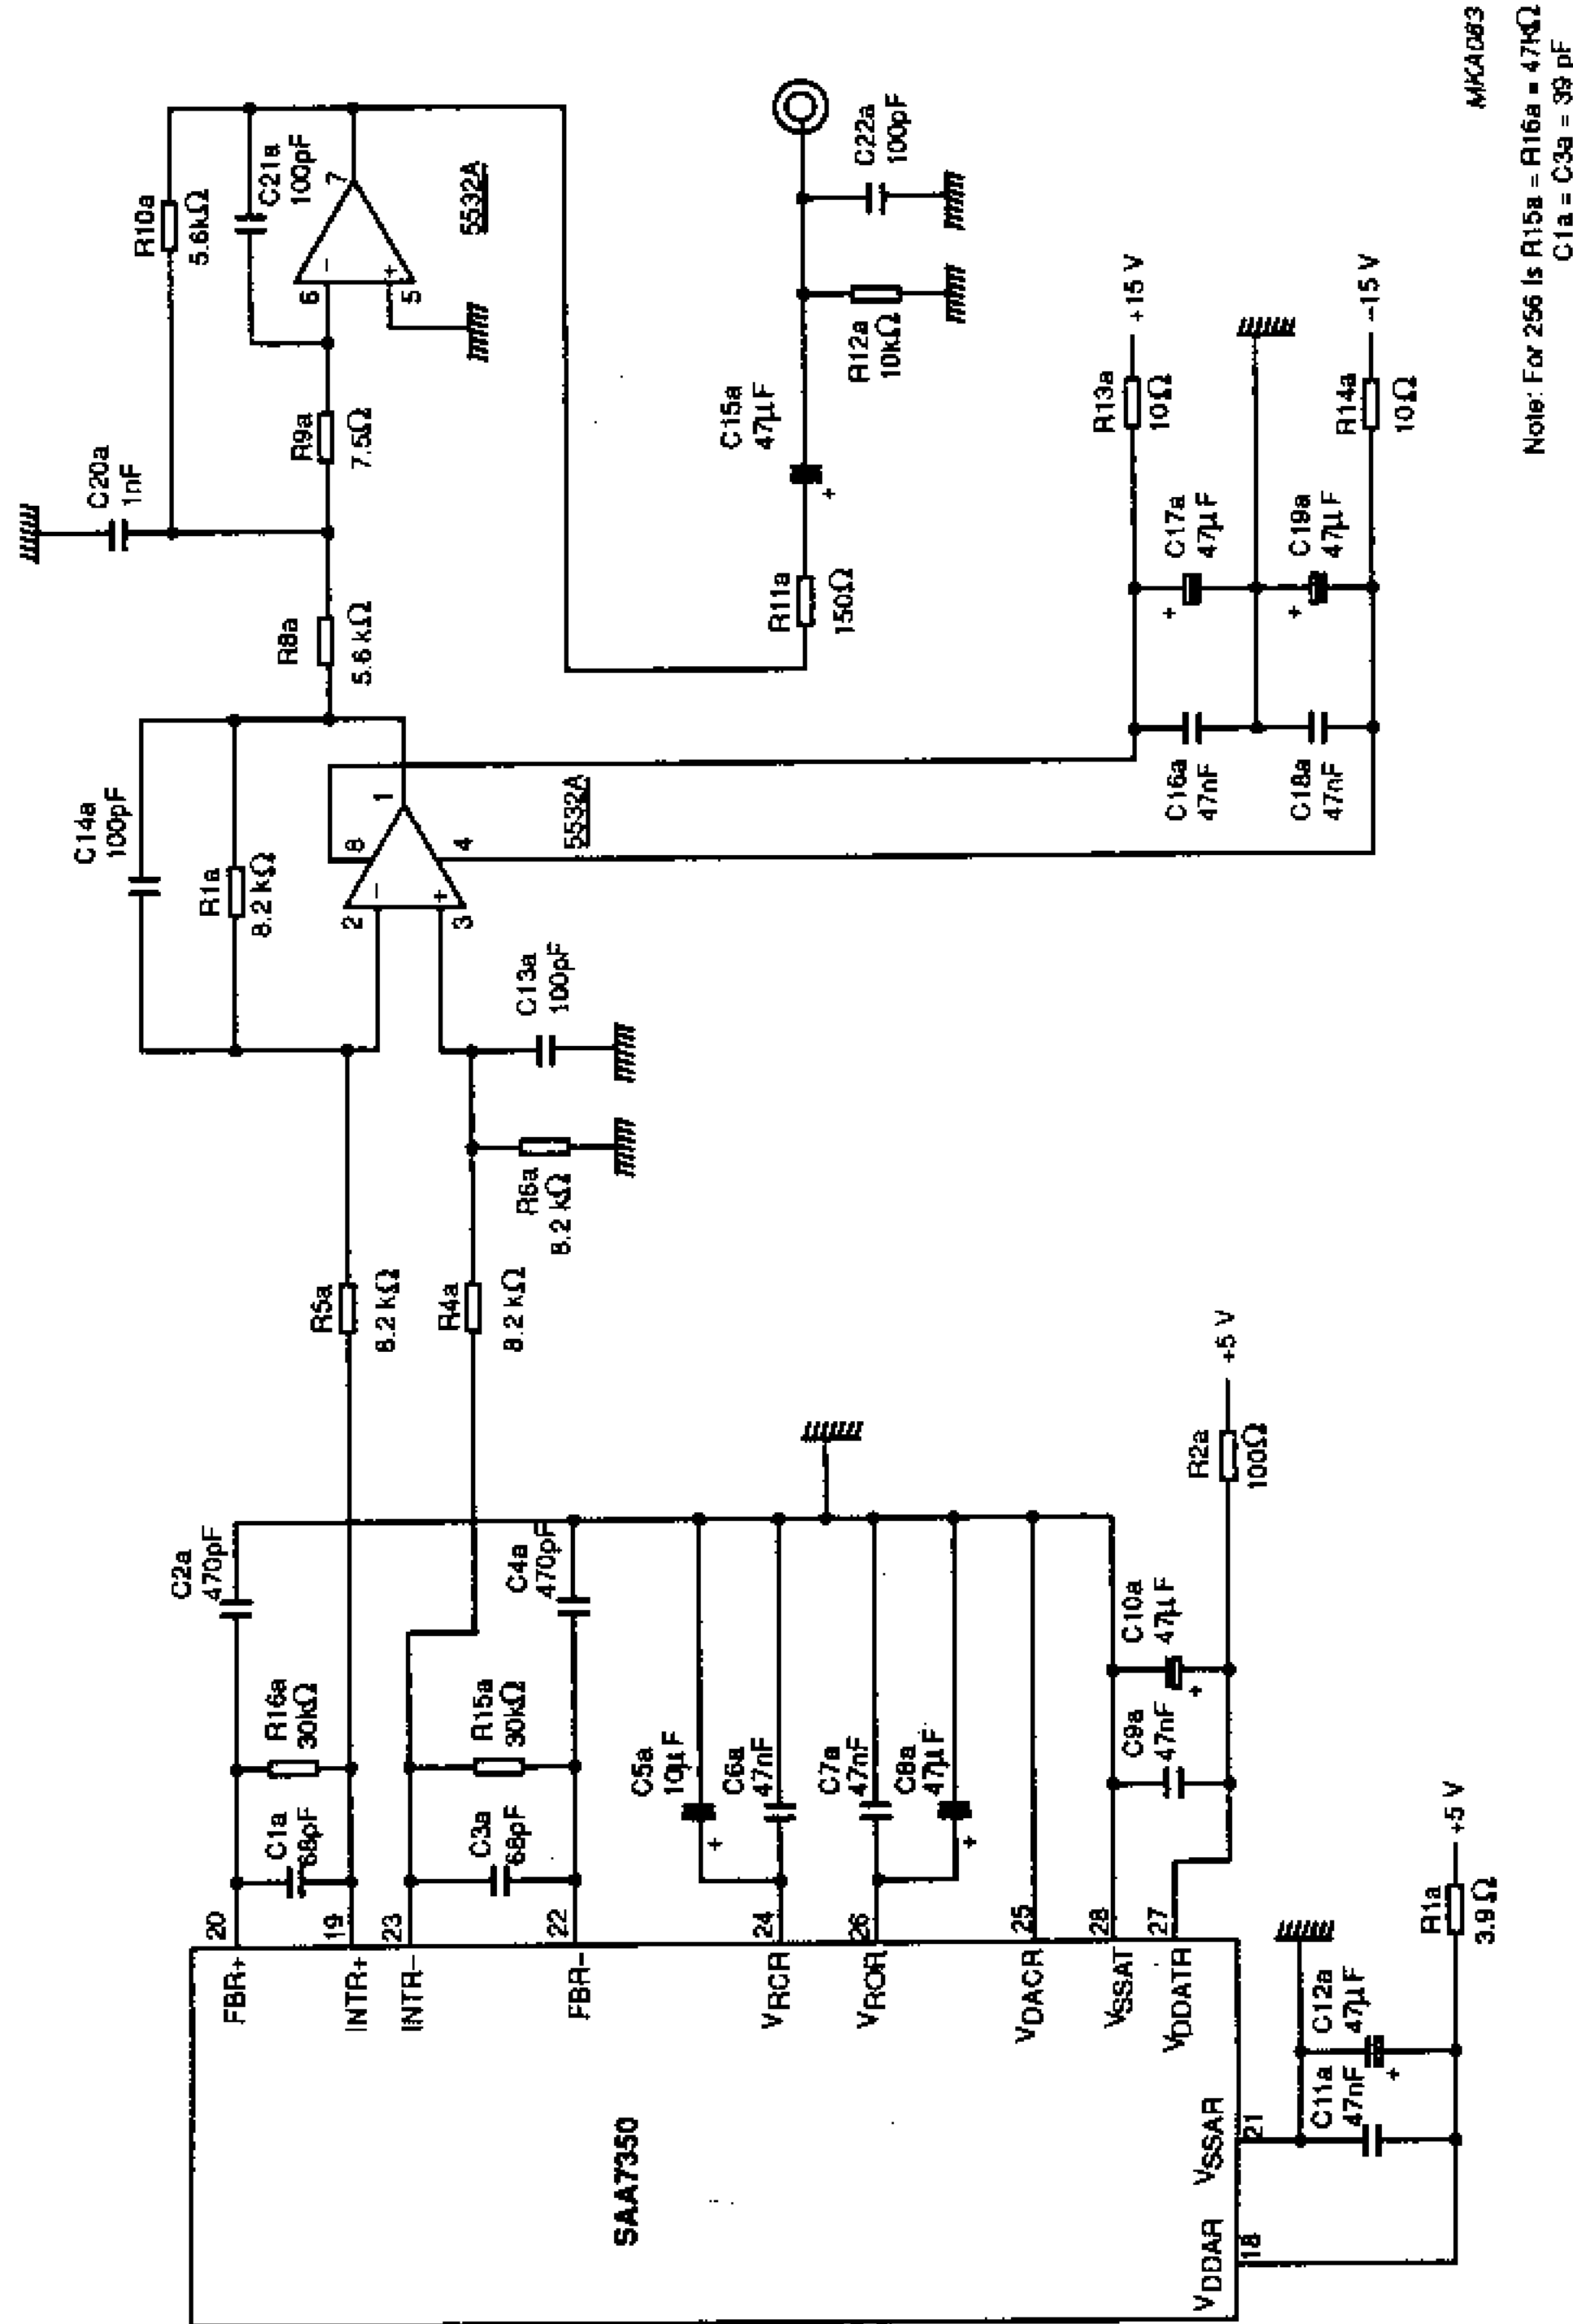

Fig.13 SAA7350 application circuit - analog section right channel (384 fs, 44.1 kHz).
- Device measured in differential mode with external components shown in recommended application diagram (see Figs 13 and 14). It should be noted that for 1.80 mV output, feedback resistors R16a, R17a, R16b, R17b should be 31.6 k Ω . Application diagram shows preferred type range values of 30 k Ω which give $1.80 \times 30/31.6 = 1.70$ mV.
- Application output level measured at output from first operational-amplifier stage in Figs 13 and 14.